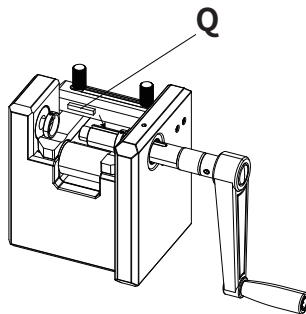

Fig.8
- 4.As shown in Fig. 8, insert Q Locking Pin into the groove on the main shaft.